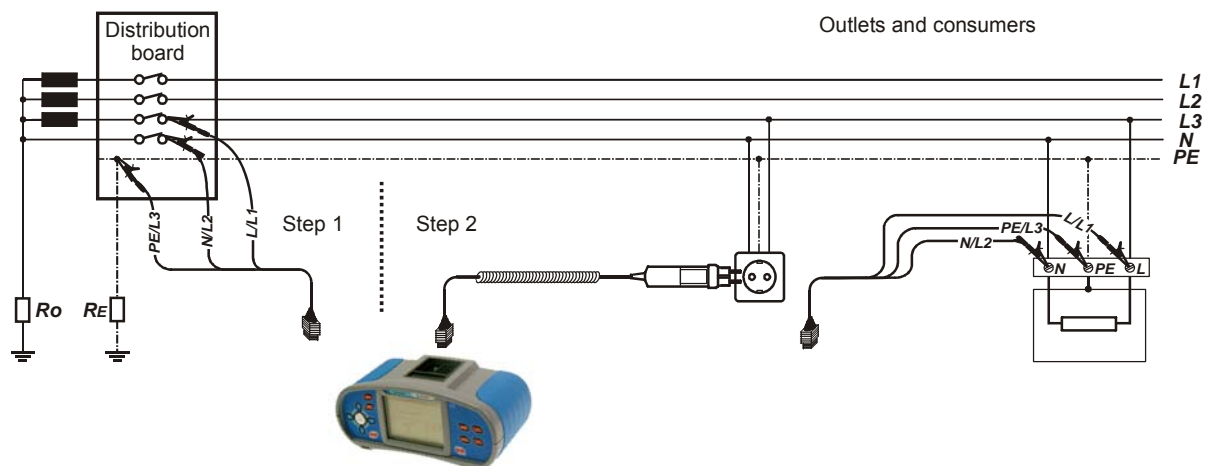

Figure F.3: Two step procedure for PE wiring resistance measurement – connection of plug commander and universal test cable
- ❑ **Connect** test leads to the tested distribution board and the instrument (see figure F.3).
- ❑ **Connect** test leads to the tested wall socket or consumer and the instrument (see figure F.3).